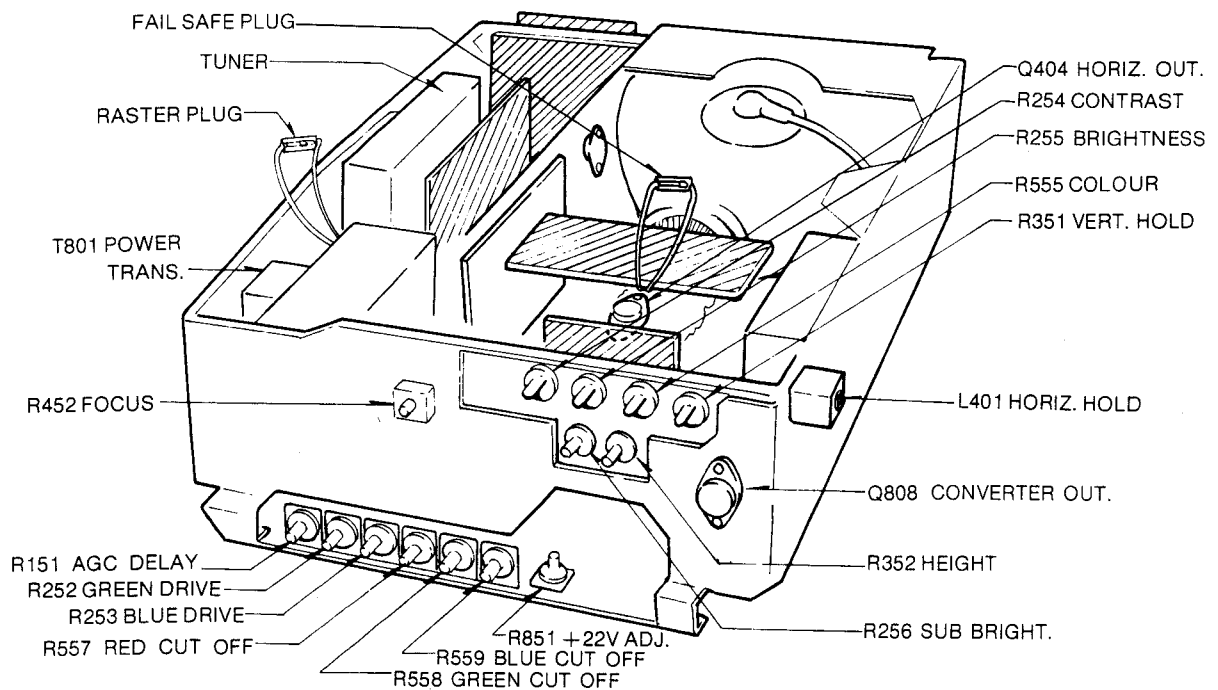

Figure 11. Chassis Rear View
4. Adjust the +22 ADJ. (R851) on the main board (See figure 11) for +22 volts reading. Remove a VTVM.
The HEIGHT control (R352) shown in figure 11 changes the size of the picture or pattern. Make final adjustment to overscan the mask about 10% vertically.
Adjust the FOCUS control (R452) shown in figure 11 for well defined scanning lines on the picture screen.
1. Disconnect the fail safe plug (Figure 11).
3. Temporarily short terminal (R) and terminal (X) on the fail safe board with a jumper wire. Raster and sound will disappear.
3. Turn the AGC DELAY control (R151) shown in figure 11 fully counterclockwise, then turn it clockwise until snow noise just disappears from the screen.